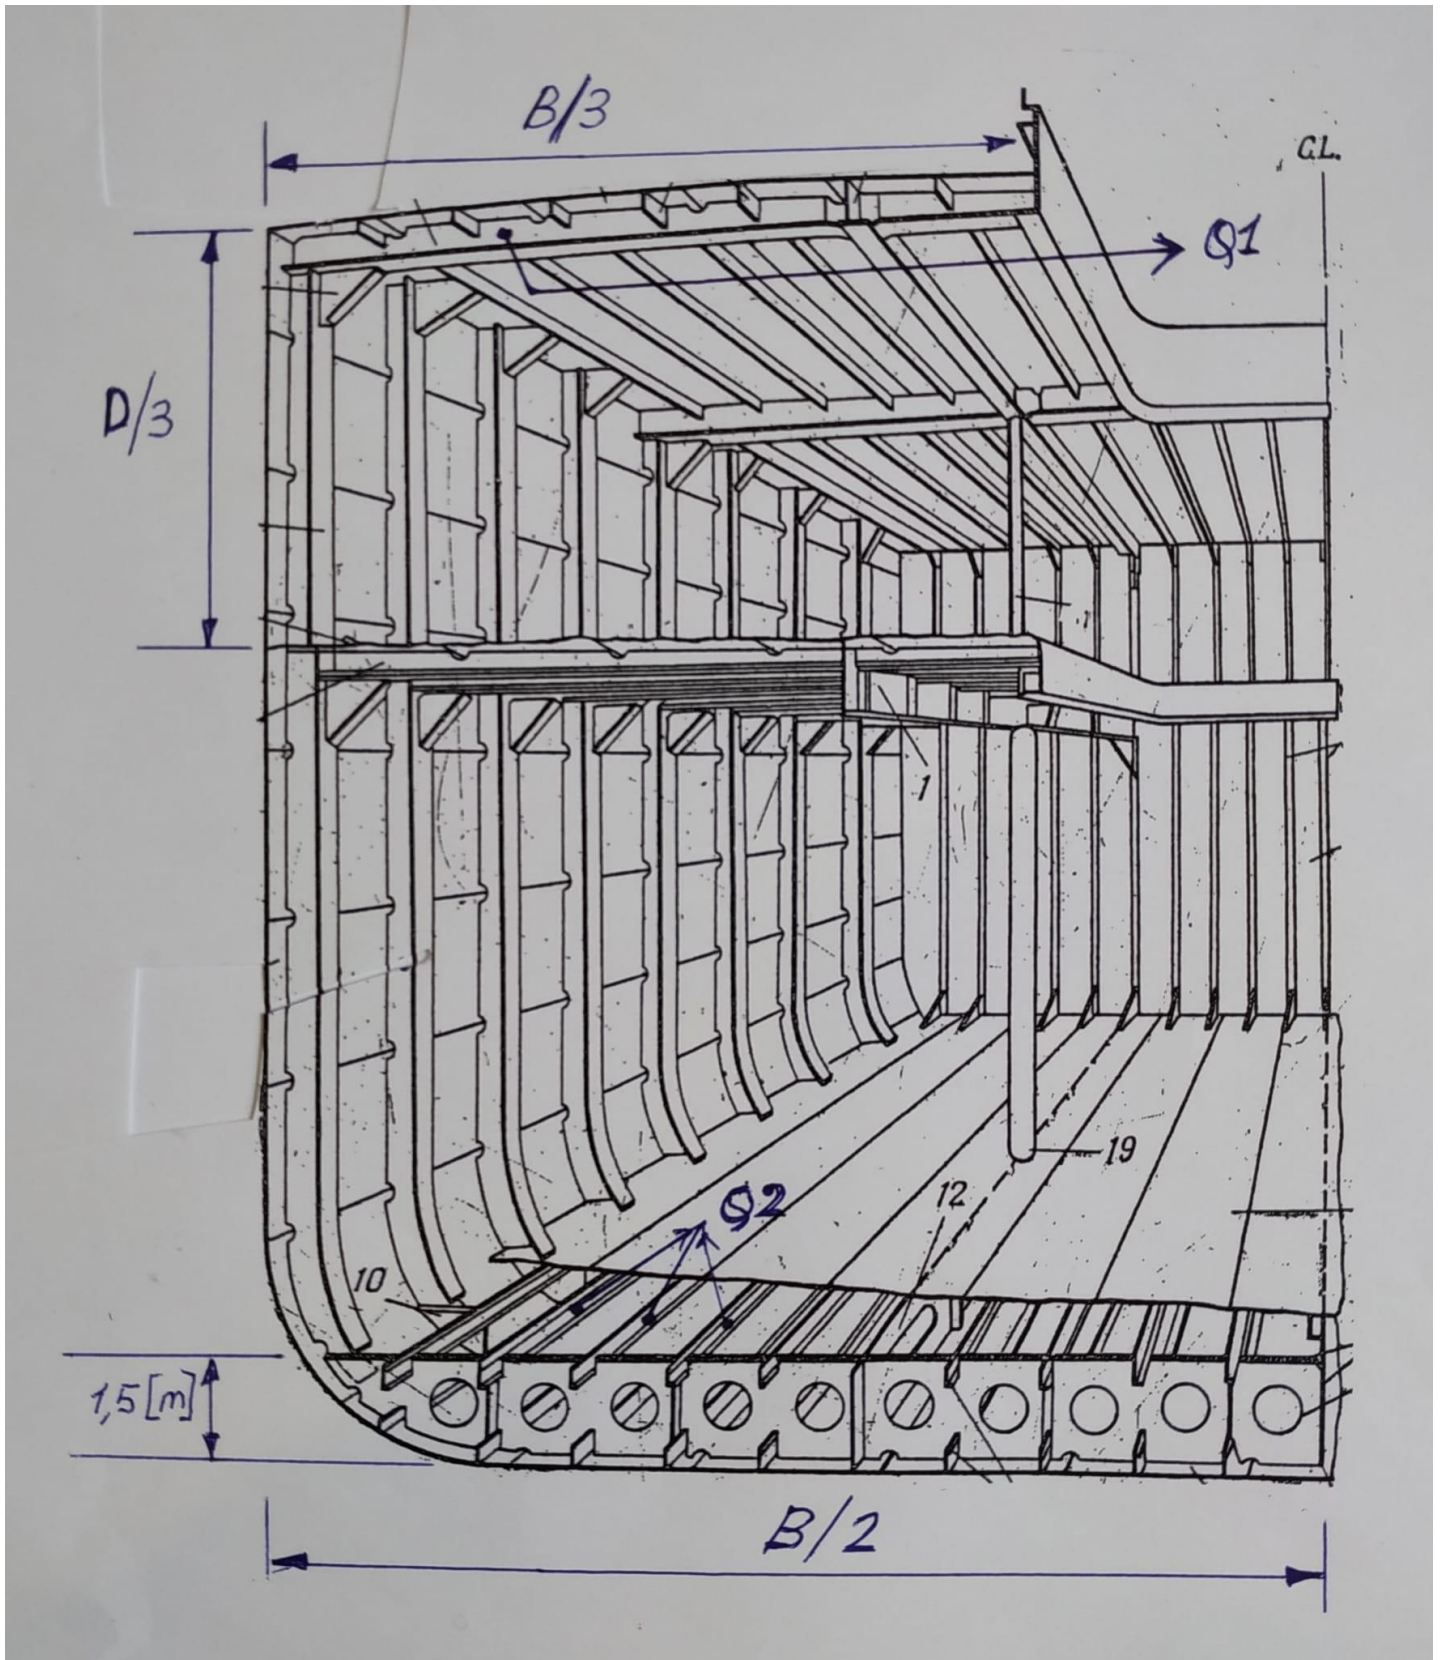

Figure 1
A view of mid-part of a dry cargo ship, whose main particulars are as follows, is shown in Figure 1:
- The vertical distance between the neutral axis and the base line (BL) is approximately equal: $0.4 \times D$
3. Calculate the midship section modulus (SM) of the dry cargo ship whose view is given in Figure 1. Then compare it with the minimum midship section modulus ($W_{\min}$) required by GL. All the necessary thicknesses needed for the calculation may be found by the following simple formula, where L is in $[m]$ (35 points):